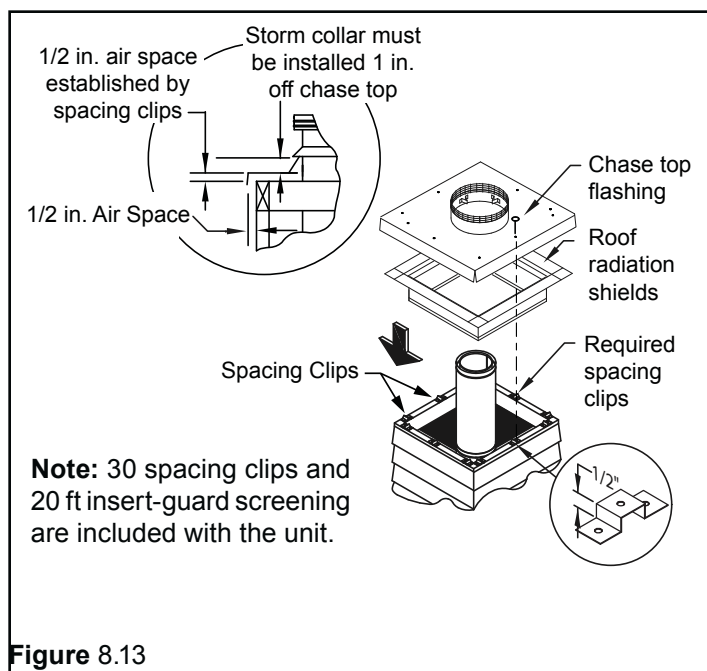

Figure 8.13
- If the ChaseTop Flashing (40 in. x 40 in.) does not ensure the minimum 1/2 in. spacing and perimeter ventilation requirements as shown in Figure 8.13., use a Chase Top Collar and field-construct the flashing as needed for the chase dimensions. Skip to **Field-Constructed Chase Top Flashing**.
- Install the Chase Top Flashing at the top of the chase with a 1/2 in. minimum air clearance off the top of the chase construction (Figure 8.13).
- Spacing clips can be field-fabricated as needed out of 24 GA sheet metal or other suitable non-combustible material (refer to Figure 8.13)
- Spacing clips can be field-fabricated as needed out of 24 GA sheet metal or other suitable non-combustible material (refer to Figure 8.13), or purchased from Hearth & Home Technologies Inc.